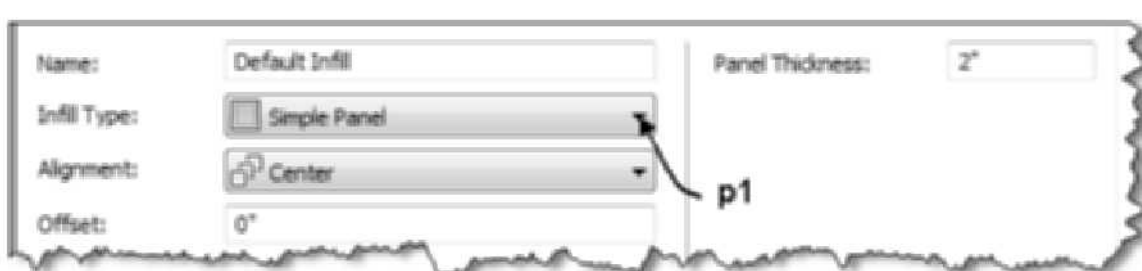

FIGURE 6.11 Defining the simple panel infills
10. Choose the Infills category in the left pane. The Default Infill is current. The Infill Type specified is Simple Panel as shown in Figure 6.11.